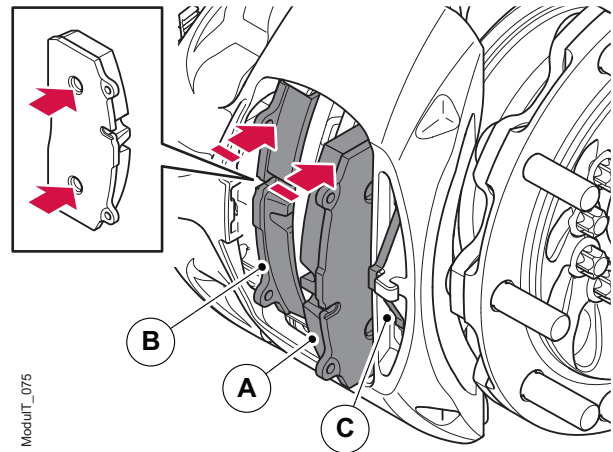

Figure 34. Install the brake pads
3. First install the inner brake pad (B) in the carrier, note that the inner brake pad locates onto the thrust plate on two points, see figure 34. Then fit the outer brake pad (A).
5. Install a new spring bracket (C) into the calliper and ensure it is seated in position correctly.